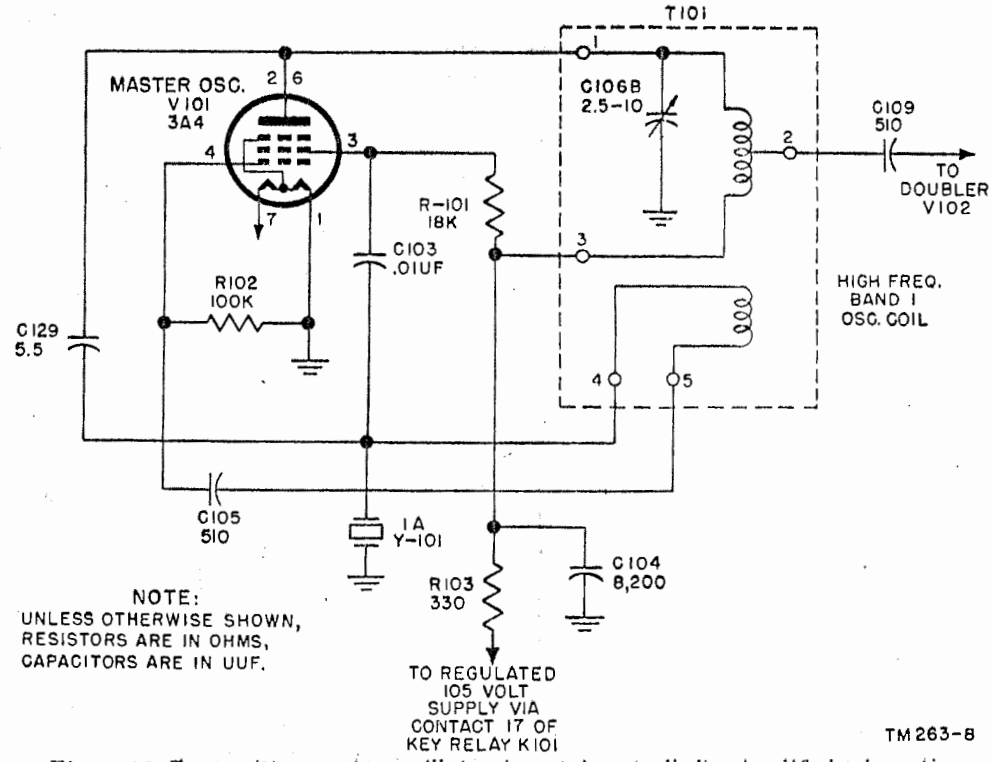

Figure 70. Transmitter master oscillator (crystal-controlled), simplified schematic.
93. Crystal Oscillator (Crystal-controlled) (fig. 70)